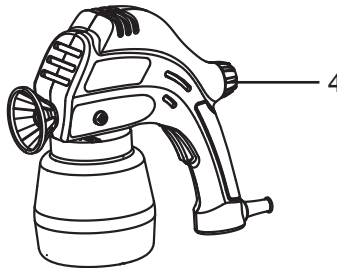

Fig. 3
1. The working pressure can be set by adjusting the spray volume control knob. (4) To increase the painting quantity, please select the working pressure carefully during working. Lower the working pressure, bigger the spots of mist. (Fig. 3)